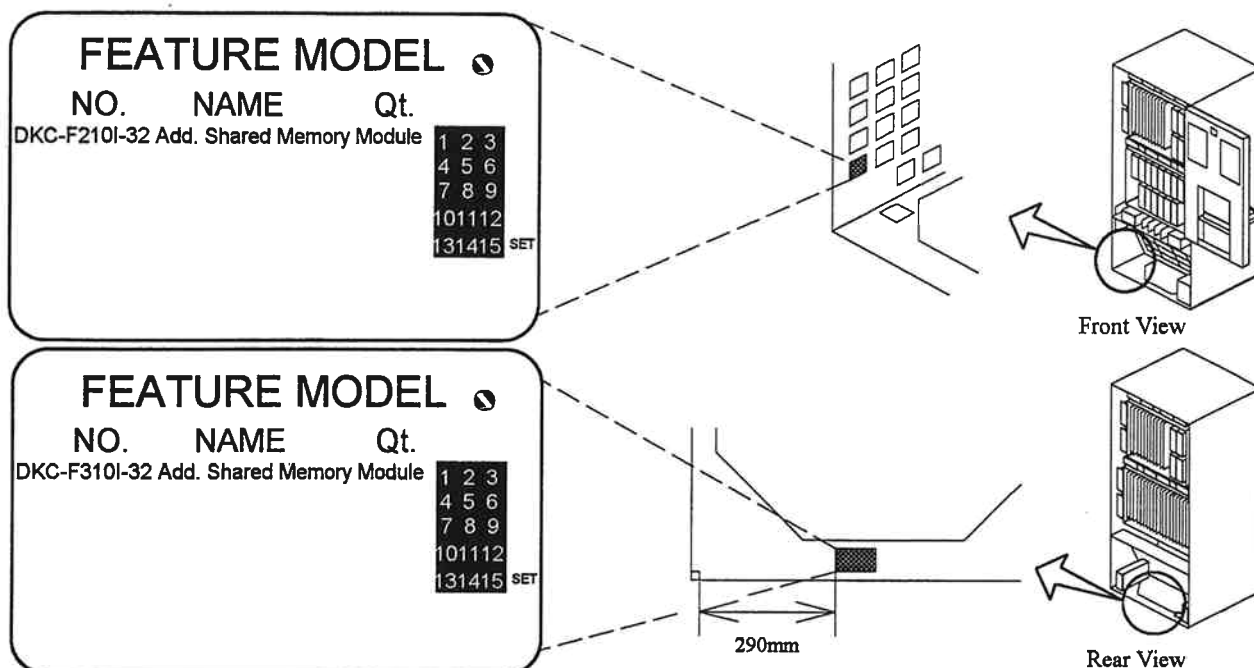

Fig. 3.4.1.3.2-4 Location of the Nameplate
- a. Refer to Fig. 3.4.1.3.2-4 and Table 3.4.1.3.2-4 to paint out unnecessary numbers and wipe off a necessary number painted previously so that the "Qt." marking for the corresponding DKC-F210I-32/DKC-F310I-32 can be seen.